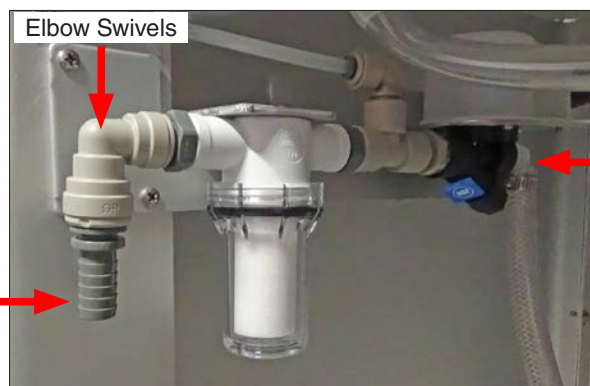

Figure 6.4e: Hose barb for ½" inch water supply hose.
- Three options are available to connect the water supply to the QUV/spray (see Figure 6.4e through Figure 6.4g).